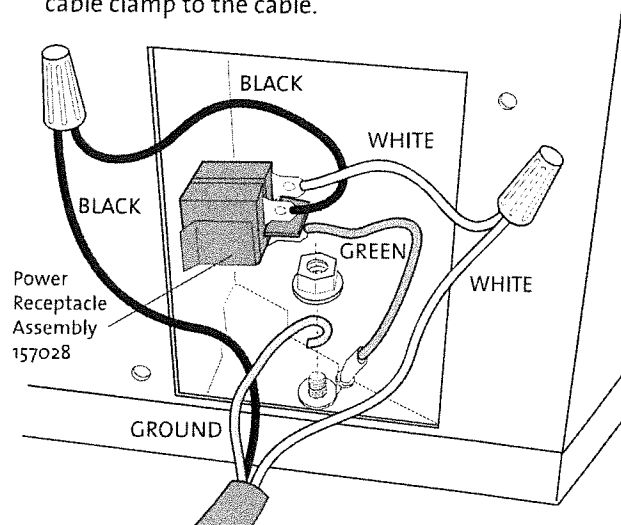

Figure 6.2 Hard wiring at the junction box. See also electrical wiring diagram, Appendix 10.4, page 38.
2. Use wire nuts to connect the house current wires to the black and white leads as indicated in fig. 6.2.